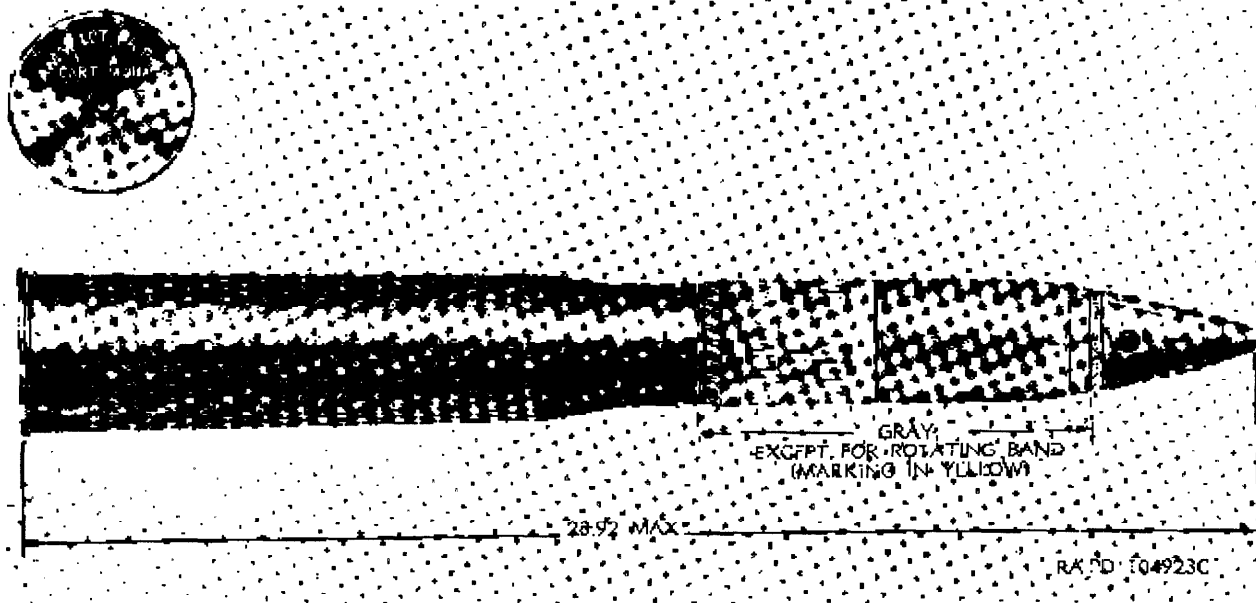

Figure 12. Cartridge, 75 millimeter: smoke, WP, M811A1, w/fuze, PD, M88A8, 0.05-sec delay.
*a. General.* This cartridge (fig. 12) is used to produce screening smoke and for spotting purposes. The projectile M311A1 is crimped to the plastic-lined cartridge case M31A1 by means of four equally spaced ball-point crimps. In external contour and ballistically, this projectile matches the high-explosive projectile (par. 26). The projectile body is a steel casing having a boat-tailed base and front and rear bourrelets and contains 1.35 pounds of white phosphorus (WP). The projectile body is fitted with a steel adapter at the nose end to accommodate the fuze and burster casing M6, containing burster initiator M1 and burster M8 (para. 71 and 72). Functioning of the fuze on impact causes detonation of the burster, rupturing the body of the projectile and dispersing the WP smoke charge, which ignites on contact with the air, creating a dense white smoke. The fuze can also be set delay, for burst after ricochet or penetration.